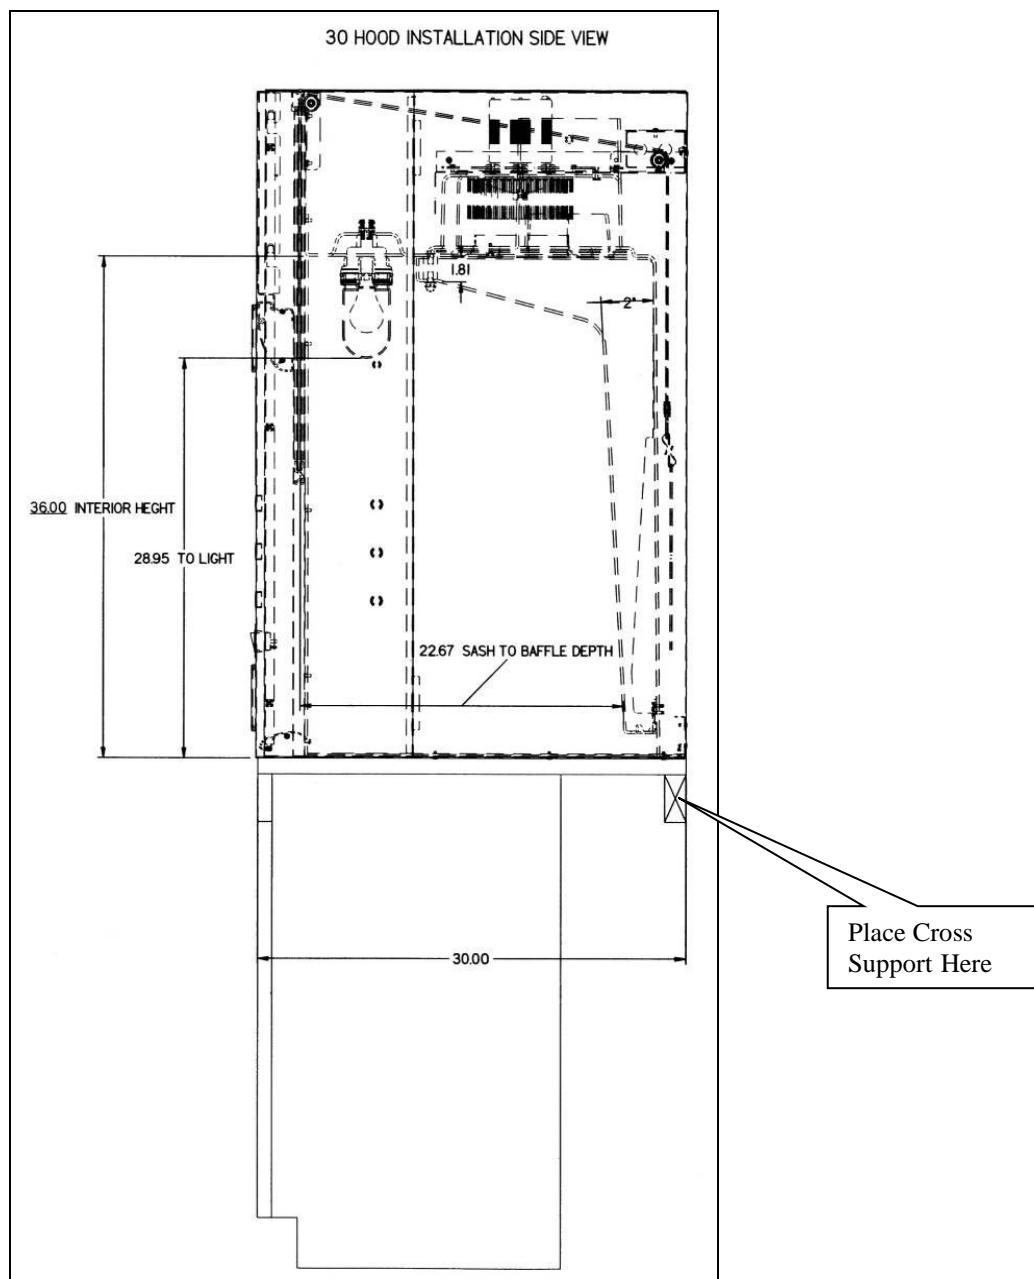

Figure 3-1
1. Level the base cabinets and the work surface. Work surface should be placed flush with the back of the fume hood as shown in Figure 3-1.